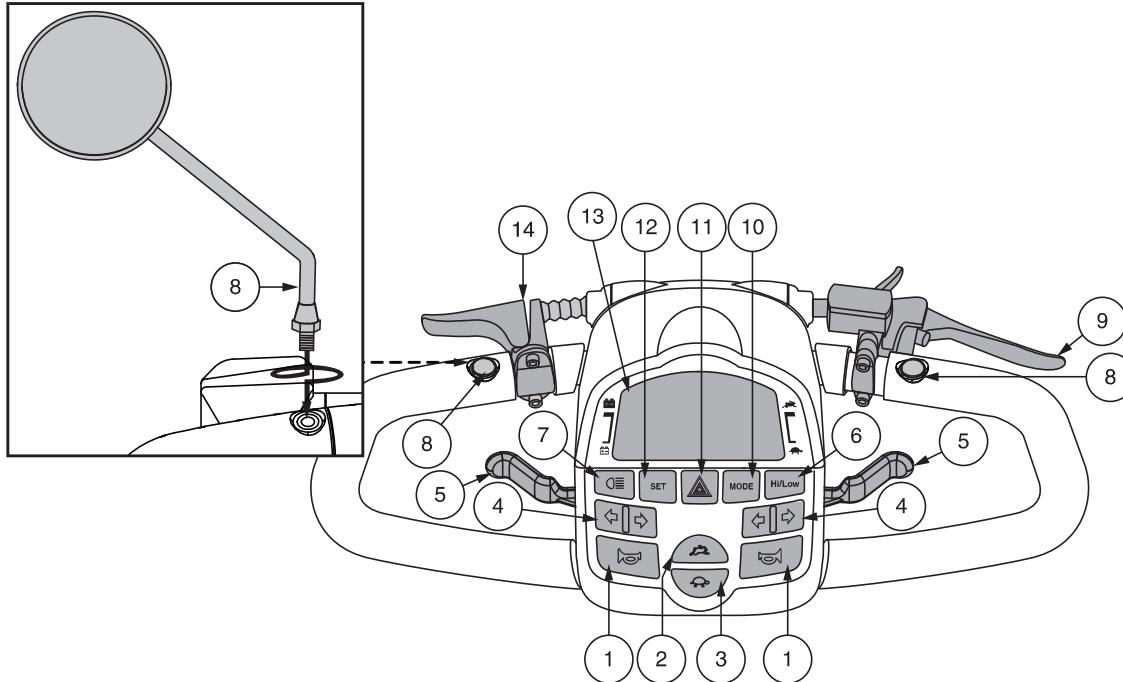

Figure 1. Tiller Console
The tiller console houses all of the controls needed to drive your vehicle, including the LCD control panel, handbrake lever, tiller adjustment lever, and the throttle control lever. See **figure 1**.
This lever allows you to control the forward speed and the reverse speed of your vehicle up to the maximum speed you preset with the speed adjustment. A throttle control lever is located on the underside of the left and right side of the tiller handle. See **figure 1**.
- Press the **High-Low** button once to set the speed adjustment to high. The High-Low indicator will display on the LCD screen. See **figure 1**. Using this setting in conjunction with the speed adjustment buttons will allow the vehicle to achieve speeds up to the maximum preprogrammed speed for the vehicle.
The LCD control panel offers easily intuited feedback information via the LCD screen. See **figure 1**. The LCD screen is also used during the set-up (activation) of the various control panel settings.
NOTE: To program control panel settings, Hi-Low Indicator must be switched off, and Maximum Speed Indicator must be set to full. See figure 1.